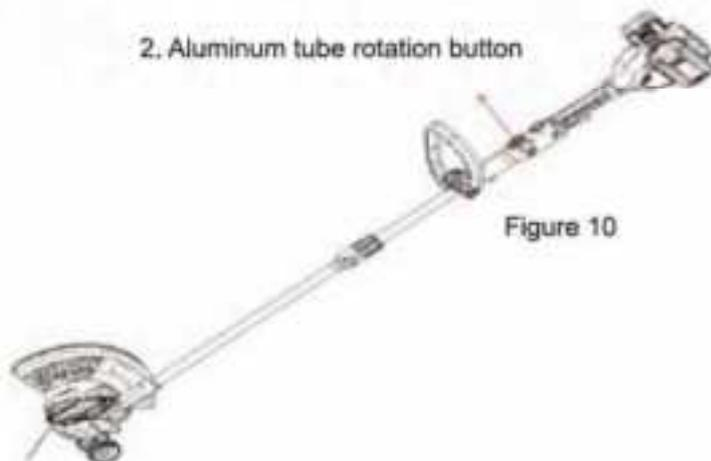

Figure 10
- Press in and hold the locking button "10" in the figure 10, Keep the cutting head level with the aluminum tube.
- Release the Aluminum tube rotation button "2" in the Figure 10, Rotate the Aluminum tube 90°.